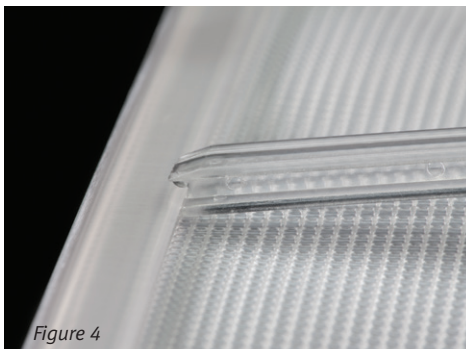

Figure 4
- Gently slide the lip of the bar into the center of the long edge of the tray. Be careful to not damage the membrane barrier (Figure 4).